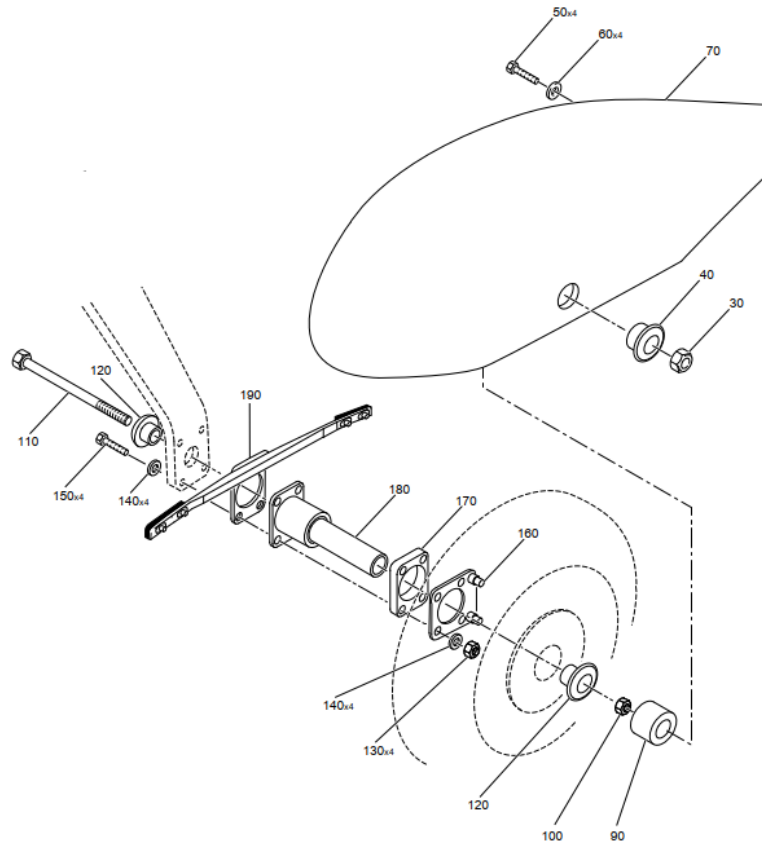

Figure 1
- 1.8.6 Remove the main wheel leg fairings Pos. 70, refer to Figure 1
- 1.8.11 Disassemble the landing gear further on a workbench, see Figure 1:
- Remove the tire, refer to Figure 1.
- Remove the axle, the plate and Torque Plate Pos. 180, 170 and 160 from the main landing gear leg, refer to Figure 1.
- Remove the bracket Pos. 190 for the main wheel leg fairing, refer to Figure 1.
- 1.8.22 Assemble the following parts to the new main landing gear legs, refer to Figure 1.
- Install new main landing gear fairings covering the LH and RH transition from landing gear leg to fuselage, item 13 and 14 of list 2.2.